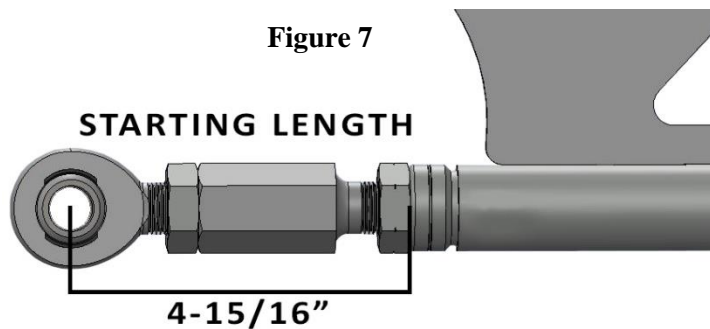

Figure 7
7. Thread one 3/4" (right-hand threaded) jam nut (#5) onto the 3/4" male rod end (#4) before threading the rod end into the linkage adjuster (#6) in the lower connection. The majority of threads of the linkage adjuster and rod end should be evenly and fully engaged with a starting point (end of torque arm to center of rod end) of 4-15/16". (Figure 7) Extension adjustments can be made during installation to the rear axle.